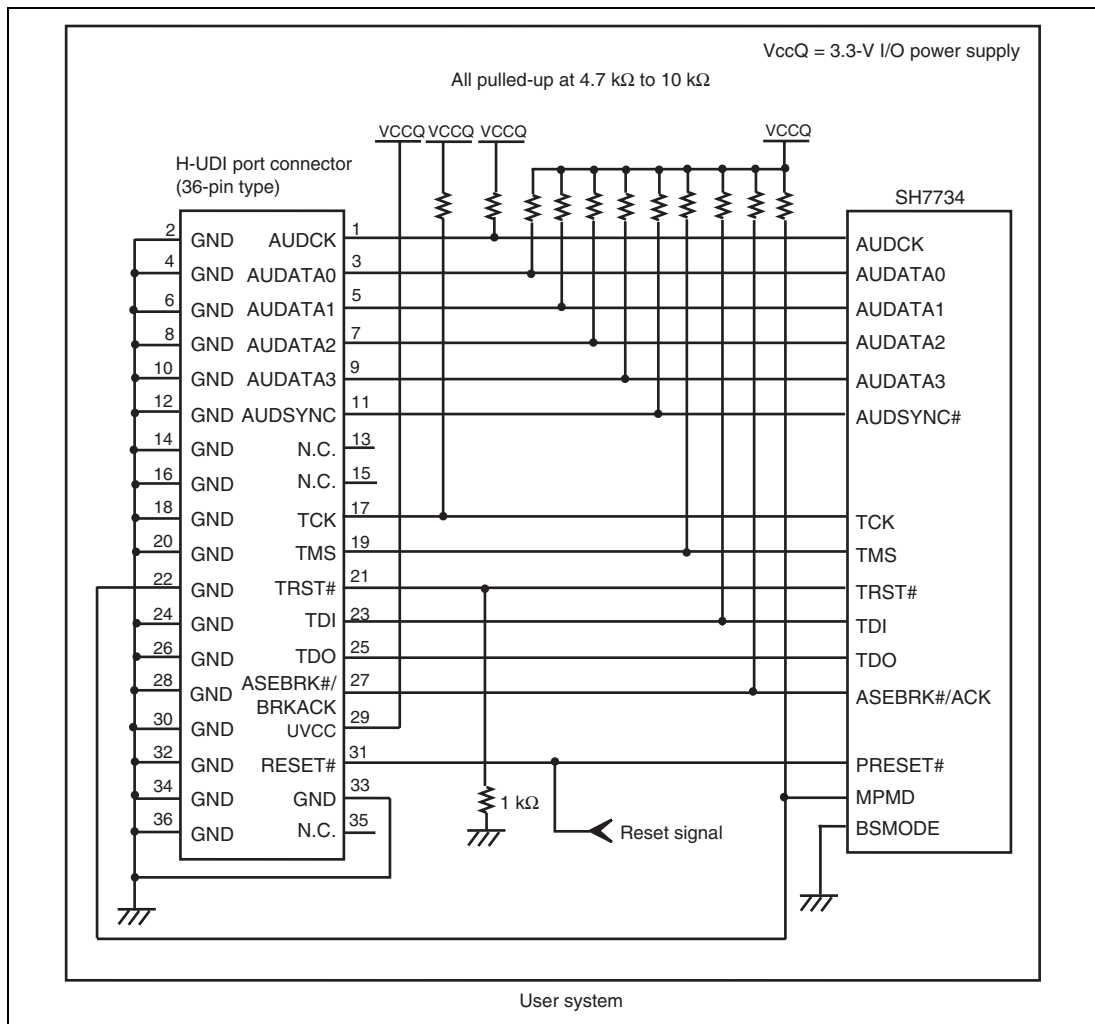

Figure 1.5 Recommended Circuit for Connection between the H-UDI Port Connector and MPU when the Emulator is in Use (36-Pin Type)
Figure 1.5 shows a recommended circuit for connection between the H-UDI and AUD port connectors (36 pins) and the MPU when the emulator is in use.
- (1) When the emulator is used: $MPMD = 0$
- (2) When the emulator is not used: $MPMD = 1$Figure 1.5 shows an example of circuits that allow the MPMD pin to be GND (0) whenever the emulator is connected by using the user system interface cable. When the MPMD pin is changed by switches, etc., ground pin 22. Do not connect this pin to the MPMD pin.
7. The resistance values shown in figure 1.5 are for reference.
When the circuit is connected as shown in figure 1.5, the switches of the emulator are set as SW2 = 1 and SW3 = 1. For details, refer to section 3.8, Setting the DIP Switches, in the SuperH™ Family E10A-USB Emulator User's Manual.